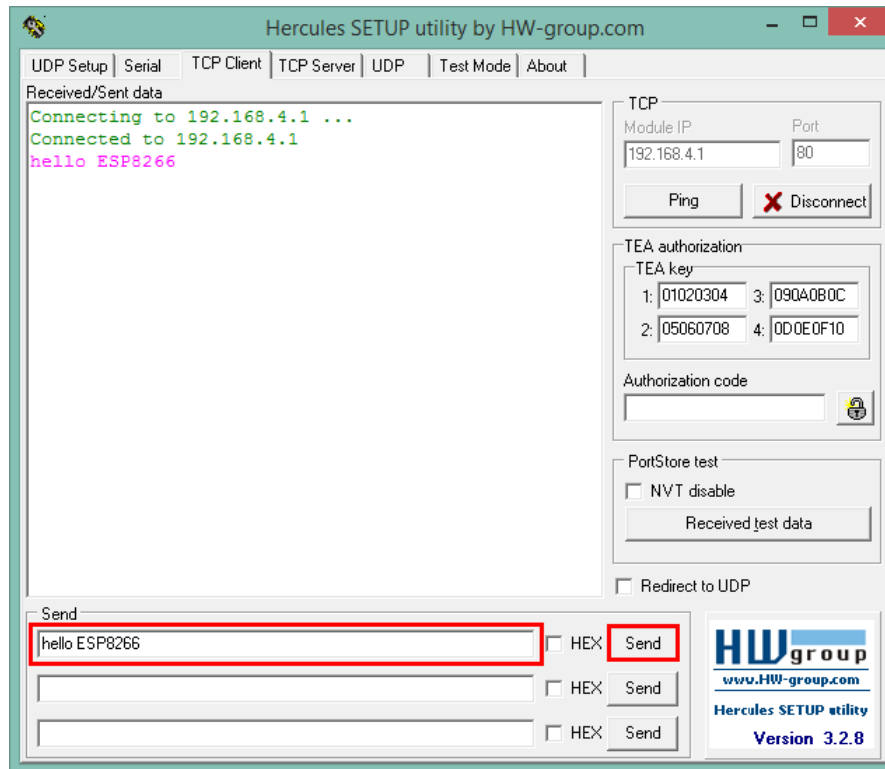
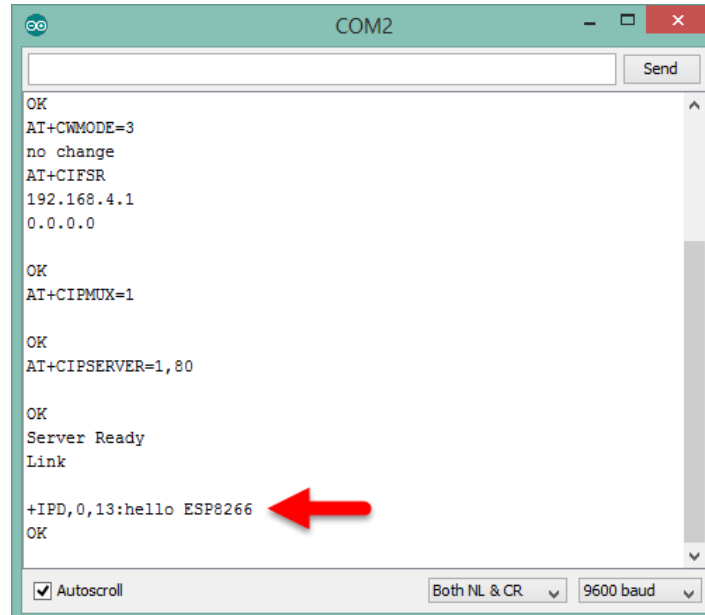

Figure 14. Sending “hello ESP8266” text
Figure 15. Appearing “hello ESP8266” text
8. You write text which this example write “hello ESP8266” text then click “Send” button from Hercules program as figure 14. And then the wizard of serial monitor will appear “hello ESP8266” text as figure 15.